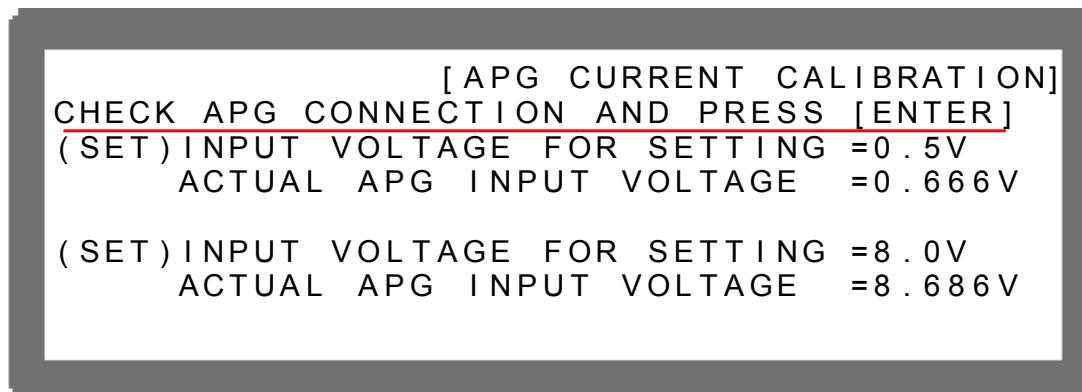

Figure 3-123
2. Press “” to go to the APG Voltage Calibration options as shown in Figure 3-123.